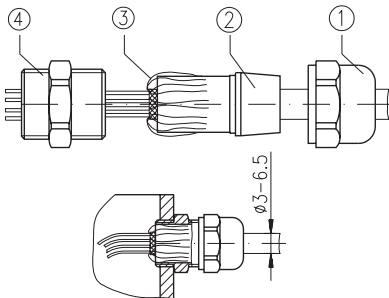

Fig. 2 : Cable connection PG7
- Prepare wire accord. to fig. 2